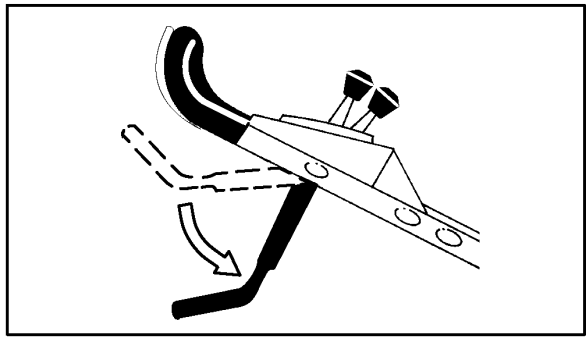

Figure 5
4. Release the control bar (Fig. 5).